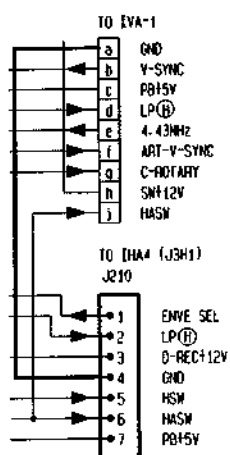

Fig. 9
- Each connector is labelled with a specific schematic and connector number, which indicates to what it is connected to and on which diagram it is located (Fig. 9).